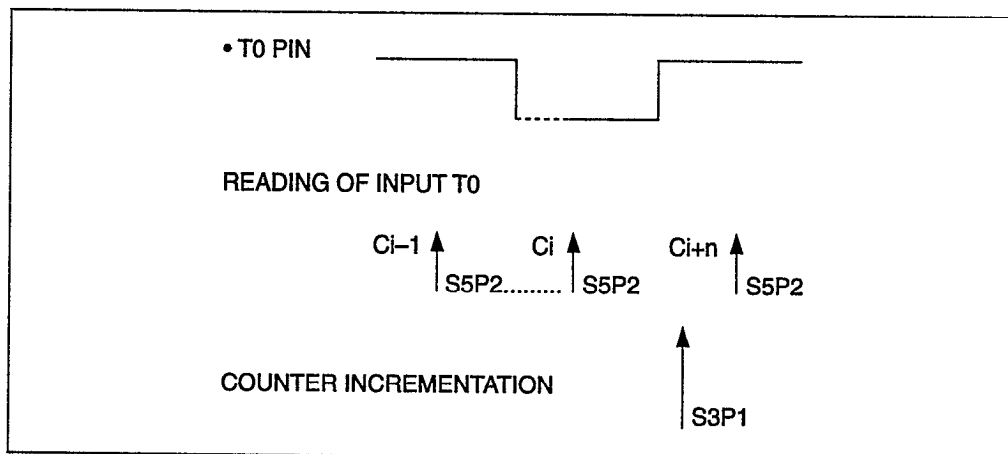

Figure 14 : Counter Incrementation Condition.
- In this mode,  $T32 = 0$  and  $C/\overline{T0} = 1$ . Before it can make an increment, the 83C154 must detect two transitions on its T0 input. As shown in figure 14, input T0 is sampled on each S5P2 state of every machine cycle or, in other words, every  $OSC + 12$ .